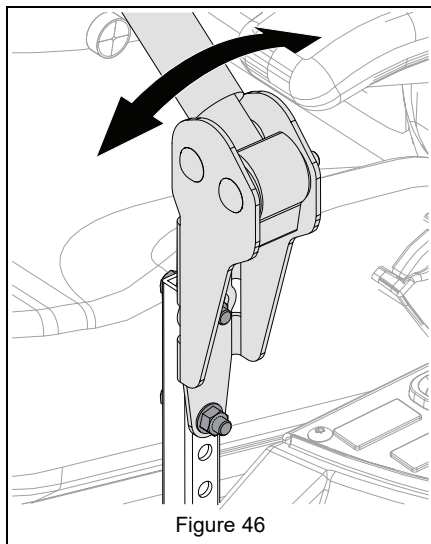

Figure 46
8. Loosen mounting hardware, align levers and tighten hardware. See Figure 46.